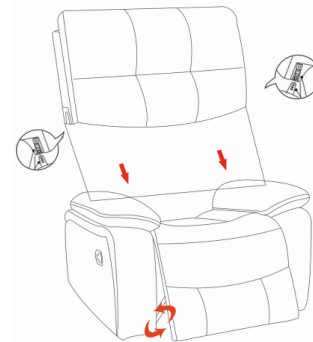

fig.2
- 1.Carefully align connecting hooks & holes into position and lock them to secure the mechanism. See fig.2
- 3.Engage the Metal Locks and push fit. You should hear them lock into position See fig. 2
- 4.Paste the velcro on the flag of the Back Cushions onto the back of Seat Cushions. See fig. 2
- 5.Insert the armrest pieces into the armrest ,See fig. 2